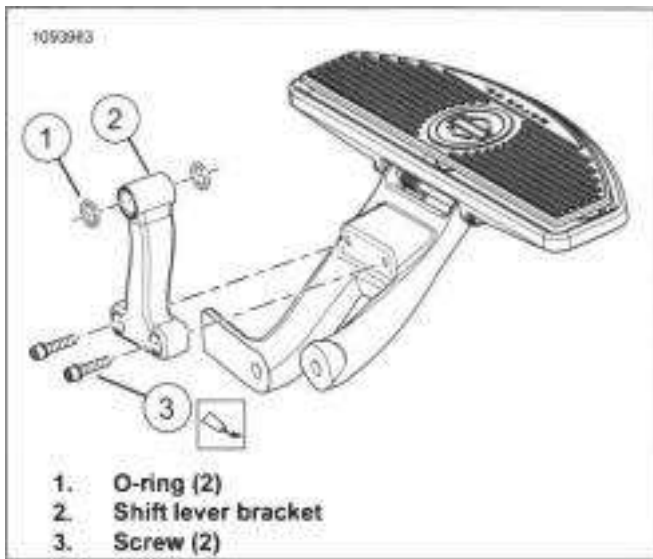
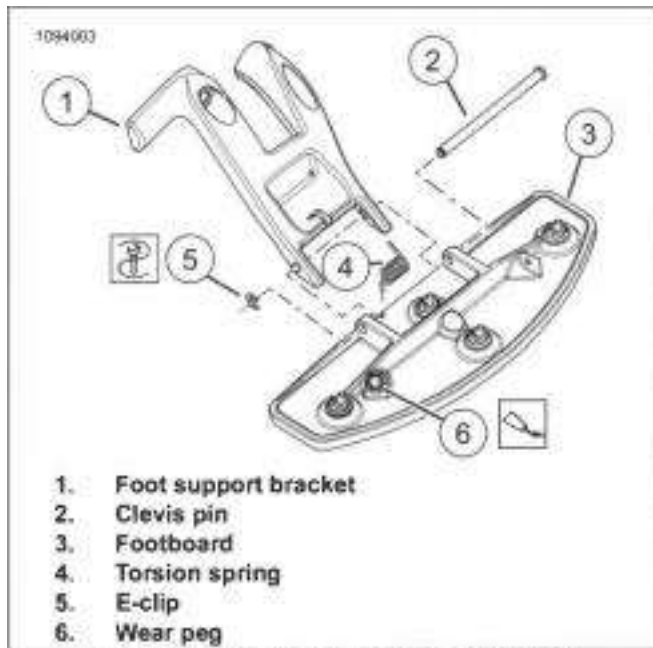

Figure 3-147. Shift Lever Bracket
Figure 3-148. Left Side Footboard (Typical)
1. See Figure 3-147. Remove shift lever bracket.
- a. Remove screws (3).
- b. Remove shift lever bracket (2).
- c. Inspect O-rings (1) for damage, replace if necessary.
2. See Figure 3-148. Remove wear peg (6), if equipped.
1. See Figure 3-148. Install footboard.
- a. Insert short leg of torsion spring (4) in hole in footboard (3).
- b. Position footboard and torsion spring on foot support bracket (1).
- c. Install clevis pin (2).
3. See Figure 3-147. Install shift lever bracket.
- a. Install shift lever bracket (2).